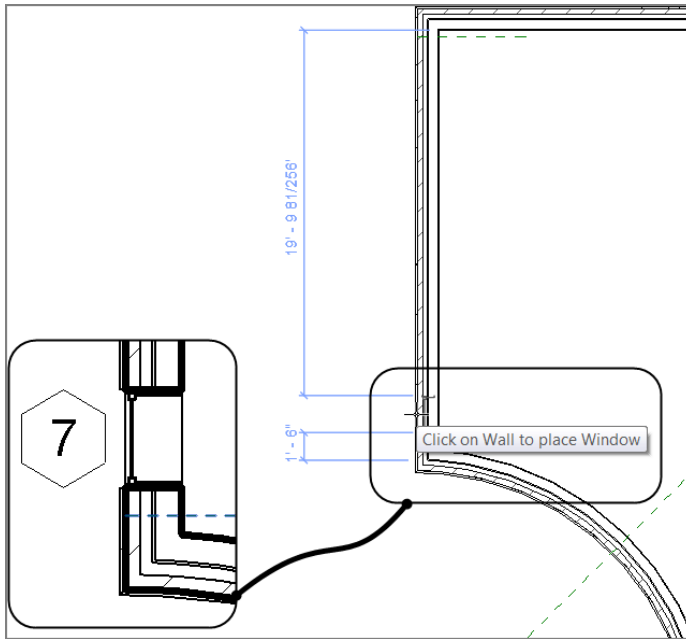

FIGURE 4.19: Adding the window to be arrayed
3. Place the window approximately where it's shown in Figure 4.19. You have to move the window in alignment with the reference plane.